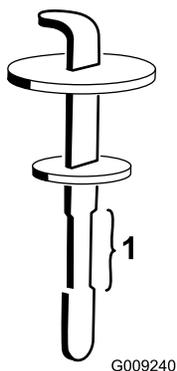

**Figure 130**
2. On the right side of the machine, raise the access cover to expose the hydraulic-tank cap (Figure 130).
3. Clean the area around the filler neck and cap of the hydraulic tank (Figure 130).